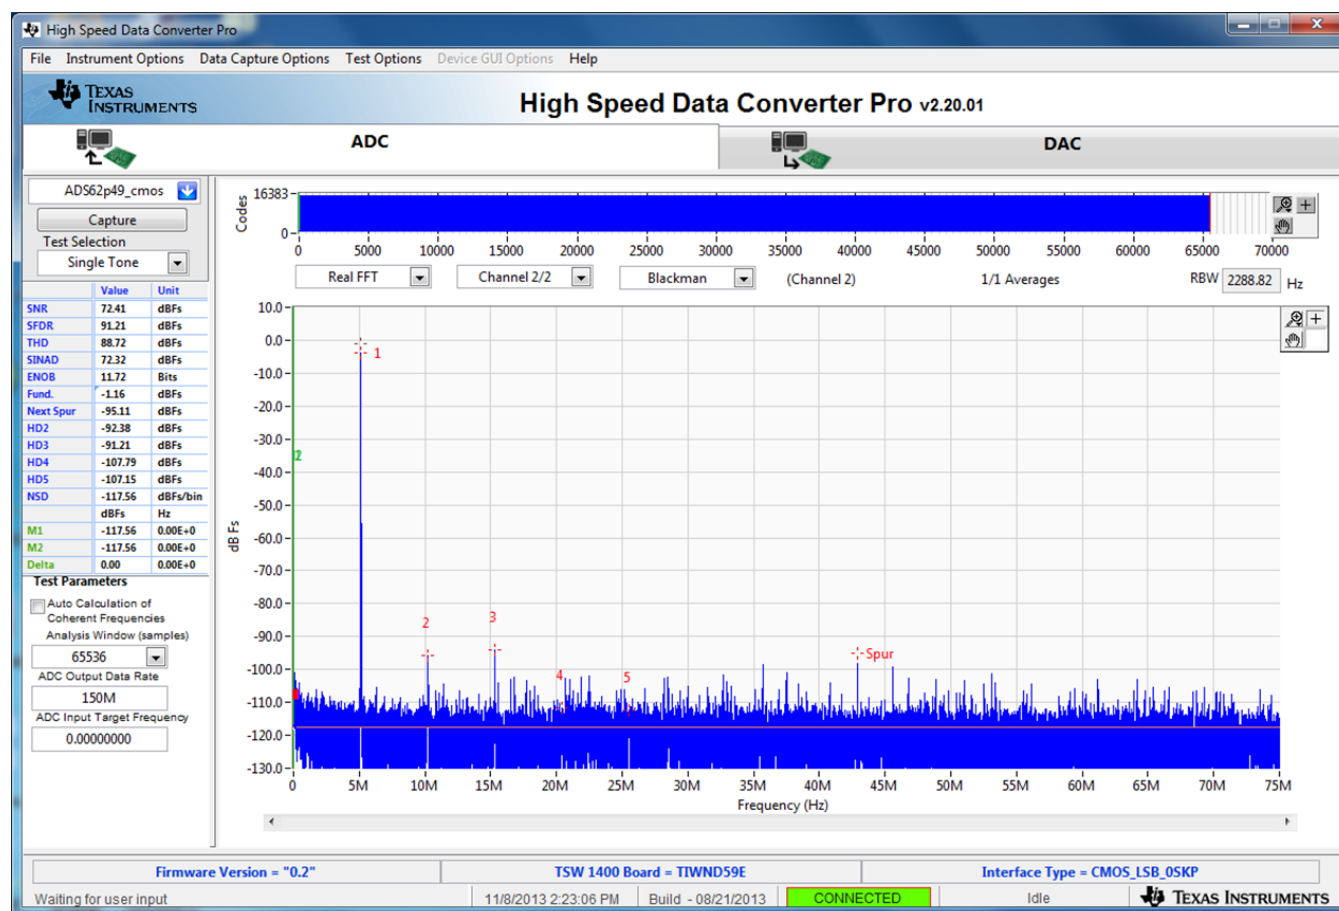

Figure 11. TSW1400EVM Captured Results from ADS62P49EVM
- Click on the “Capture” button to perform a data capture. The results should like similar to those shown in Figure 11.